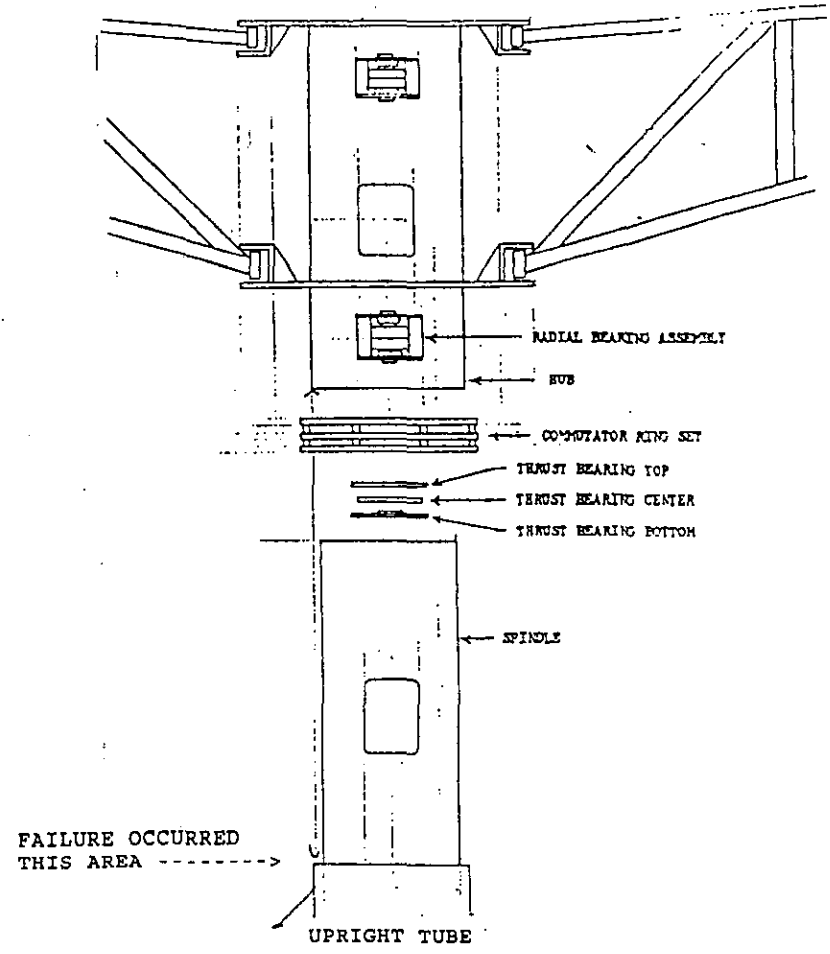

FIGURE 2 - CLOSE-UP AND EXPANDED SCHEMATIC OF SUBJECT AREA
2. Measure spacing of radial bearing rollers and spindle. It should be 0.010-inch. If not, adjust to 0.010-inch [See Fig. 2].